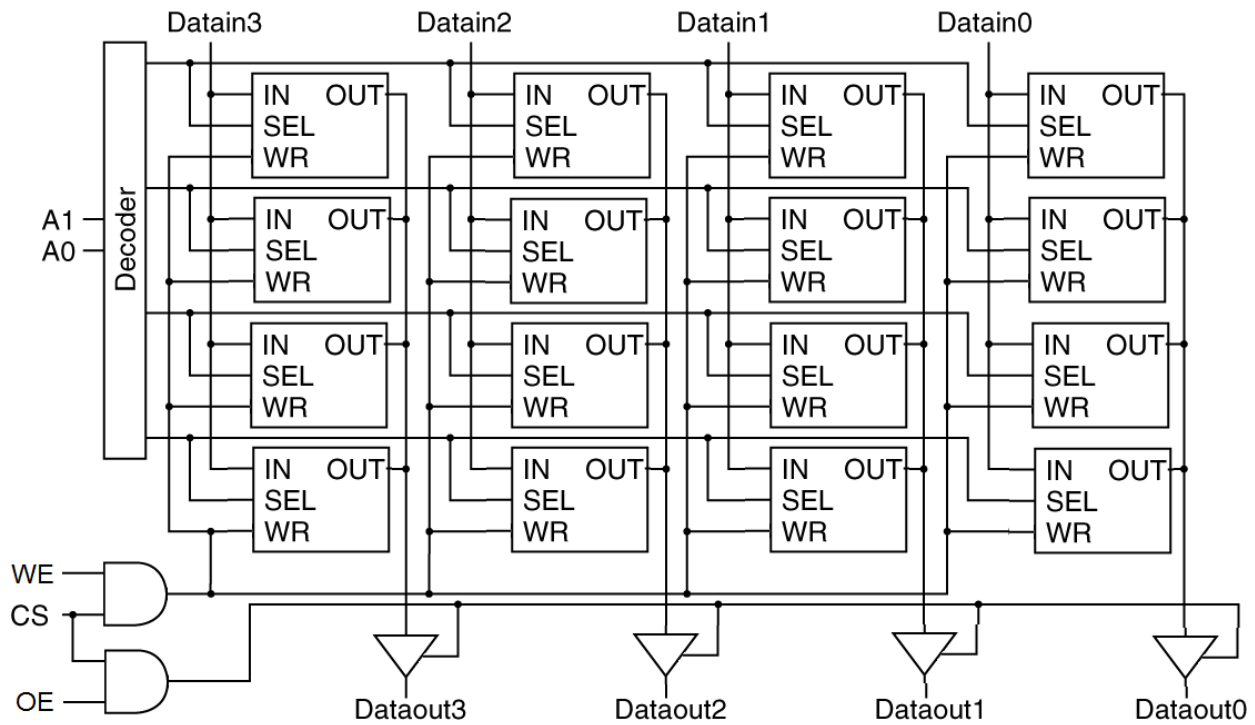

Figure 16. Internal structure of a 4x4 static RAM
Fig. 16 shows the structure of a 4 x 4 static RAM. Since there are 4 storage locations that are 4 bits wide, you will need 16 static-RAM cells to store all of the data. This schematic shows the benefits of using a tristate logic buffer. The output of each column can connect to the same output pin without the use of a multiplexer to separate the lines. As long as the tristate buffer cuts off the output of the other cells, the one cell that is on will be the only output that will be connected to the output pin.
- You will design an 16 x 4 SRAM by extending the SRAM shown in figure 16. The output of this SRAM will be connected to a 4-to-7 decoder that outputs to the 7-segment-display. Input to this SRAM is using 4 switches and a key to signal WRITE to memory signal.
- You will design an 16 x 32 SRAM (16 locations 32 bits each) by extending the SRAM shown in figure 16. The output of this SRAM will be connected to an appropriate decoder (you have to figure out what decoder to use. You may use LPM module , if you find, or extend the decoder code given below in Figure 18)that outputs to the 7-segment-display.
6. Arrange 16x4 SRAM symbols using the logic of the Figure 16. Alternatively, if you find it overwhelming to stack 64 SRAM cell symbols in your screen, you can take advantage of symbol creation in Quartus. For example, in a new block diagram file, you can create a single “stack” of 16x1 SRAM cells, turn this into a symbol and then in another block diagram file join four of these 16x1 stacks together.